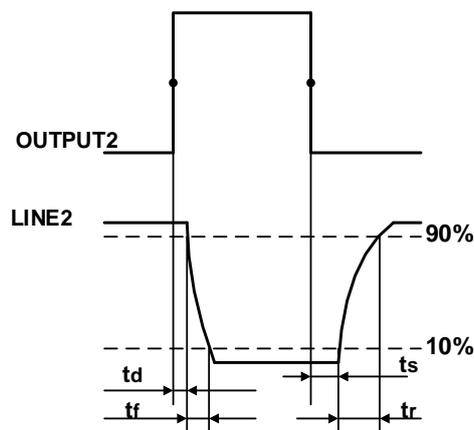

Figure 7-40 Parameter of opto-isolated output circuit
- Rising time delay = t_r+t_d : $<20\mu\text{s}$ ($0^{\circ}\text{C}\sim 45^{\circ}\text{C}$) (parameter description as shown in Figure 7-40)
- Falling time delay = t_s+t_f : $<20\mu\text{s}$ ($0^{\circ}\text{C}\sim 45^{\circ}\text{C}$) (parameter description as shown in Figure 7-40)